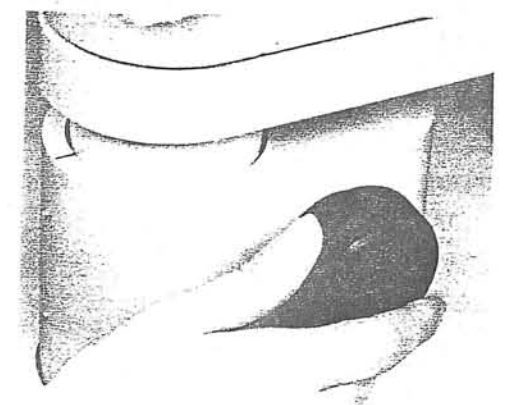

Fig. 37
6. Turn the main unit height adjustment knob until the illuminating light is aligned to the eye to be examined. (Fig. 37)